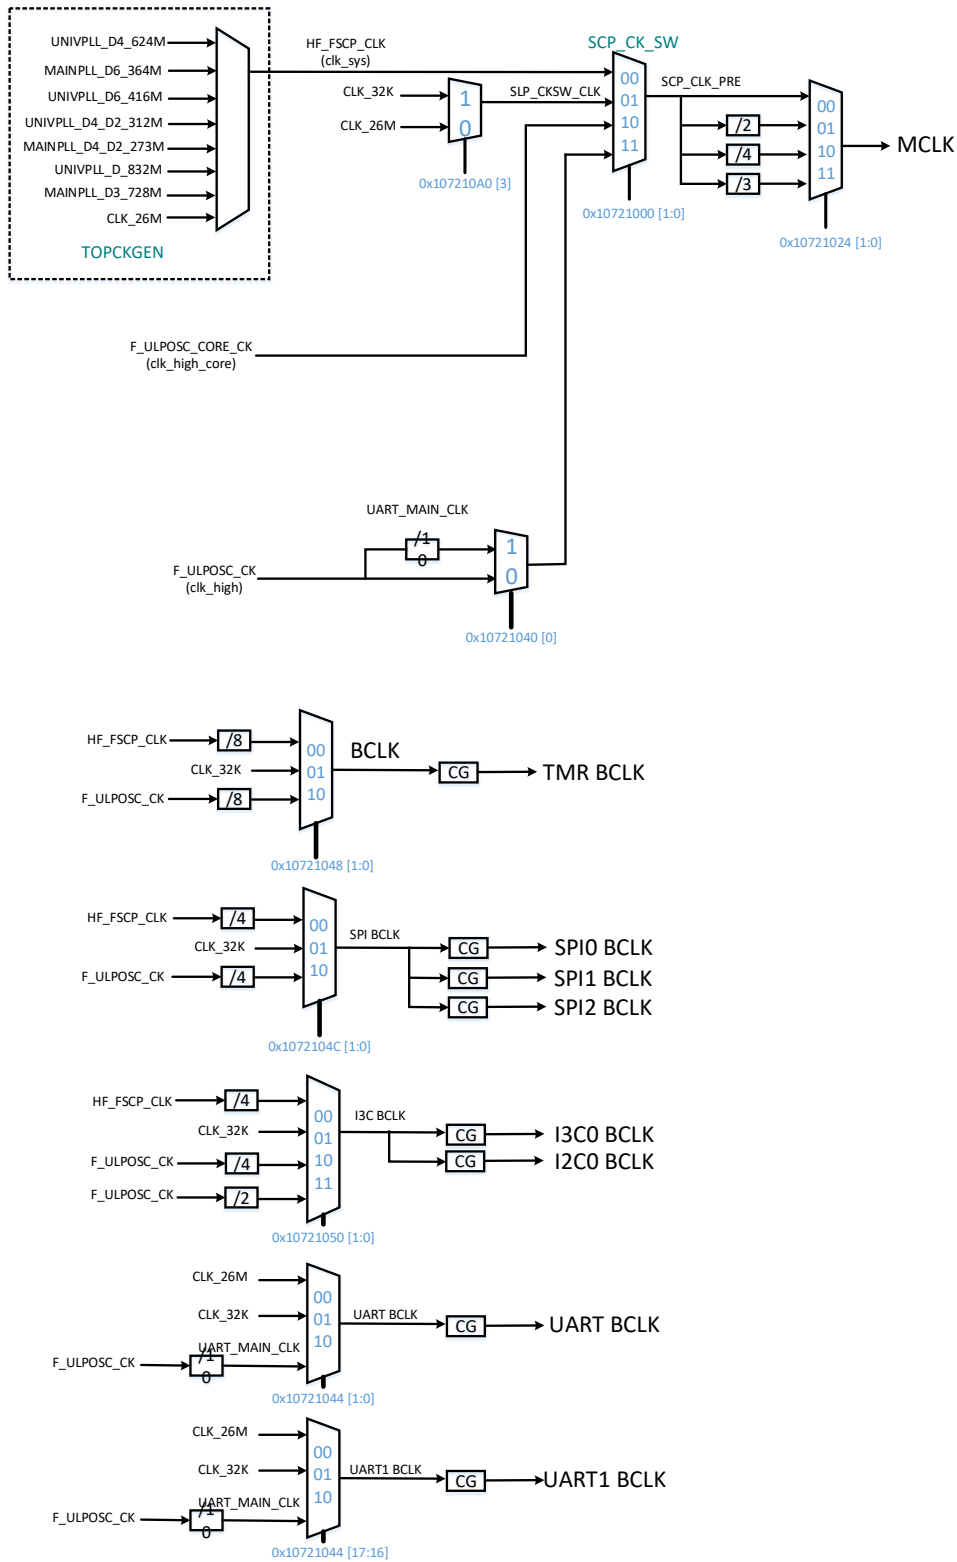

Figure 3-9 SCP Clock Structure
The clock source of the SCP subsystem is provided by HF_FSCP_CK, CLK_32K, CLK_26M, or CLK_ULPOSC (the four clocks are configured by the CLK_SW_SEL control register CR setting). Bus, RV55, and IP bus interface clock are controlled by the divider selection (MUX) control register and clock gating (CG) control register. The SCP clock structure is as Figure 3-9 shows.
In order to comply with the low speed IO protocol, the peripherals need to operate at the special clock period, I2C bclk, I3C bclk, SPI bclk, or UART bclk. The clock divider selection control register and the clock gating (CG) control register of low speed peripherals and IO are shown in Figure 3-9.